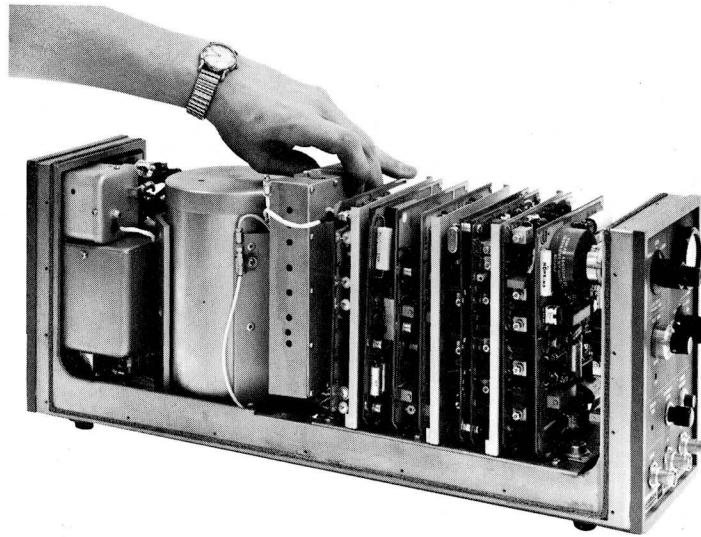

Figure 6-3. Removing Multiplier Assembly
- (e) Pull multiplier up, as shown in Figure 6-3.